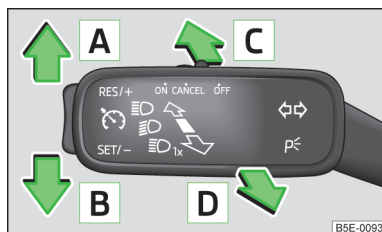

Fig. 29
- » Pull the turn signal and main beam lever to the steering wheel and push downwards » Fig. 29 on page 49.
- » Pull the turn signal and main beam lever to the steering wheel and push upwards » Fig. 29 on page 49.
The following functions can be operated with the operating lever » Fig. 29.